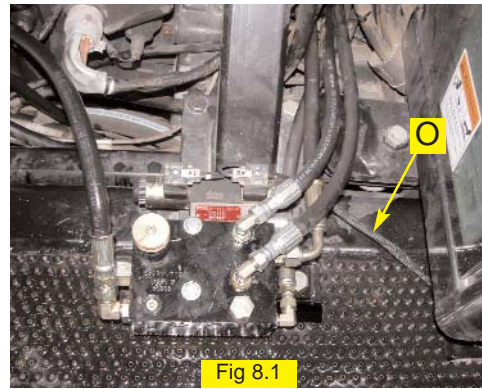
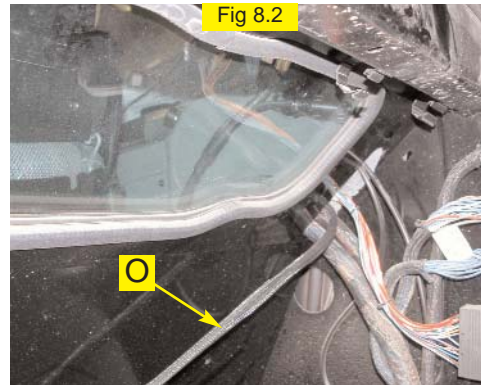

Fig 8.1
Fig 8.2
Attach the hydraulic valve control cable (O) to the hydraulic control block and route it back under the sprayer cab along the left side. (Figure 8.1) The cable can be routed into the cab through a grommet in the back right corner of the cab, near the lower window. (Figure 8.2) To access this grommet from inside the cab it is necessary to remove the console in the back right corner.